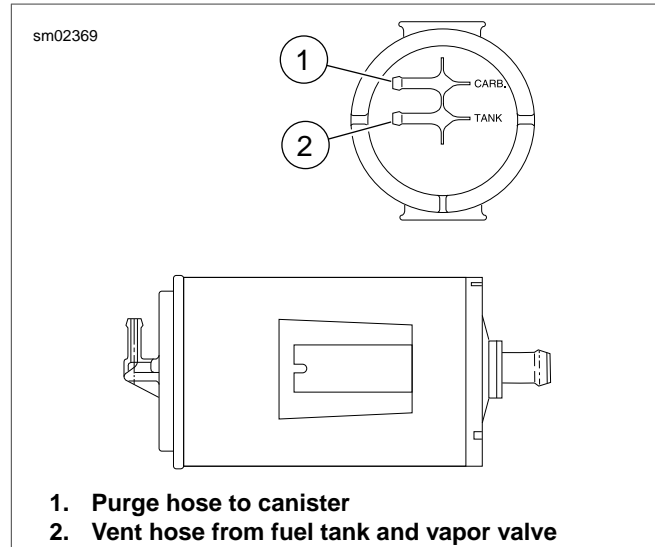

Figure 4-74. Charcoal Canister Connections
4. See Figure 4-74. Note the two hose connections on the left side of the canister. To verify correct assembly, label each hose to match the stamps on the canister before disconnecting.
2. See Figure 4-74. Attach hoses to canister nipples as marked.